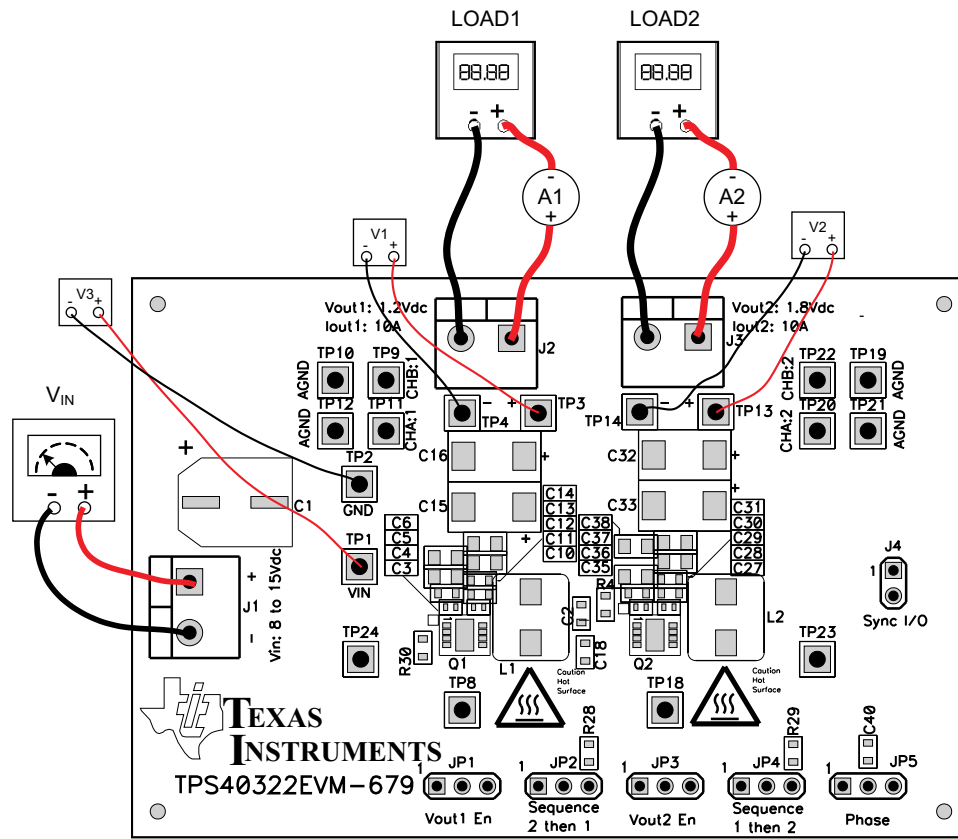

Figure 2. TPS40322EVM-679 Recommended Test Set Up
**Voltage Source:** Input DC source, the input voltage source (VIN) shall be a 0-V to 15-V variable DC source capable of 10 ADC. Connect VIN to J1 as shown in Figure 2.
Shown in Figure 2 is the basic test set up recommended to evaluate the TPS40322EVM-679.